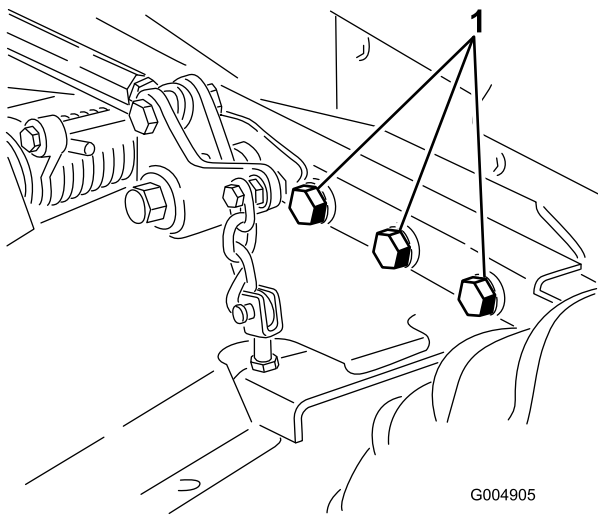

Figure 65
5. Check all fasteners for looseness and tighten them as necessary. Torque the 6 bolts securing the mower deck frame to the traction unit (Figure 65) to 359 N·m (265 ft-lb).